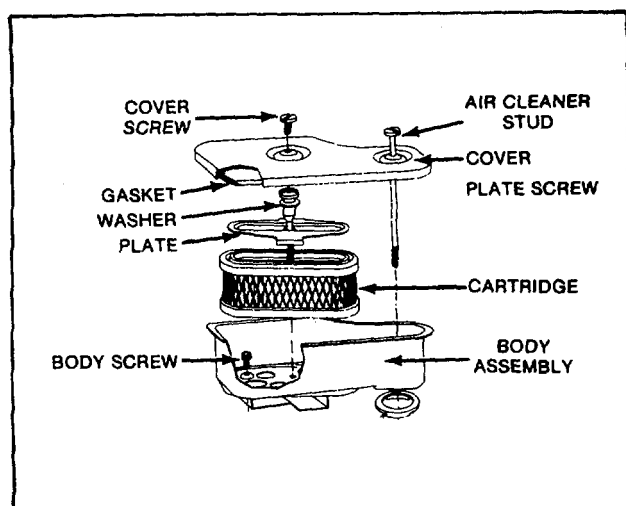

Fig. 6 - Cartridge Air Cleaner
5. Re-assemble air cleaner. Fig. 6.